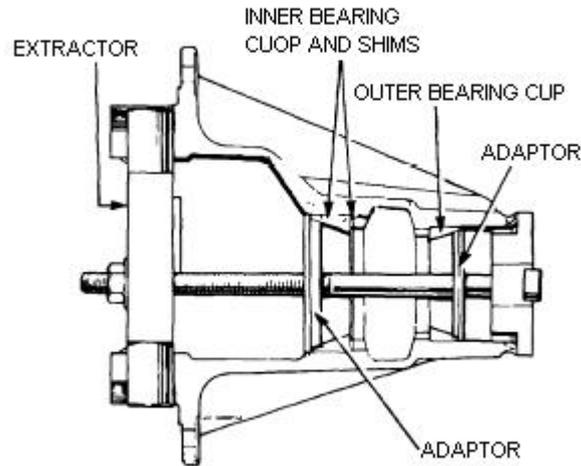

Figure 239 Installing the Pinion Bearing Cups
- m.** Locate the shims removed in Para 74.e in the pinion shaft inner bearing cup recess (Figure 239). If the original shims have been damaged or lost, use a shim of approximately 0.050 in.
- n.** Using the extractor and adaptors (Table 3, Serial 59, 61 and 62), install the pinion shaft inner and outer bearing cups in the differential carrier (Figure 239).